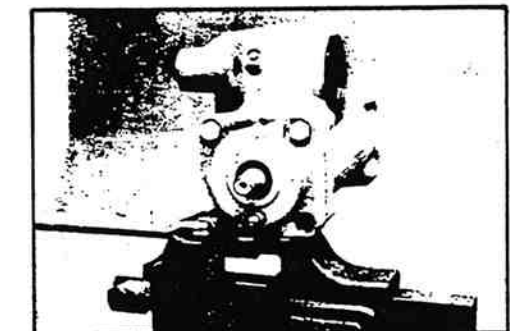

Figure 11-27. Housing Bolt Removal.
23. Loosen the poppet adjusting screw jam nut (21) and the poppet adjusting screw (20) two turns.
24. Remove the four valve housing bolts (25) with a 13/16 inch socket (figure 11-27).